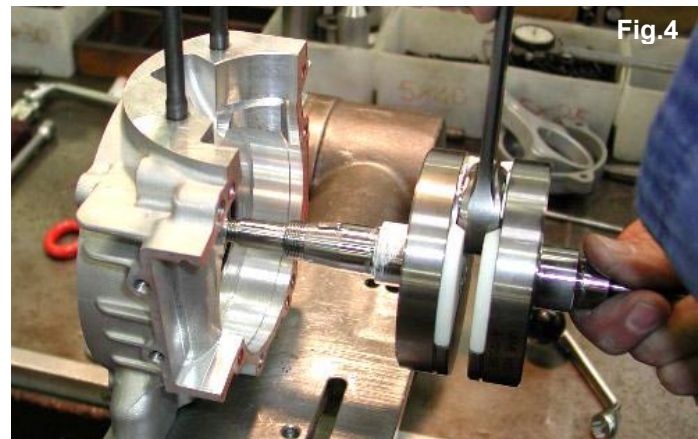

Fig.4
- e) **INSERT CRANKSHAFT** AFTER OILING THE CRANKSHAFT SEAT IN THE CRANKCASE – CRANKSHAFT MUST BE IN SAME POSITION AS IN ORIGINAL INSTALLATION (see Fig.4)